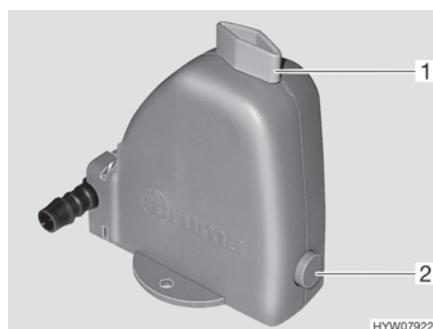

Fig. 79 Safety/drainage valve
The heater is equipped with a safety/drainage valve (Fig. 79). The safety/drainage valve prevents water for the production of hot water from freezing, when there is frost and the heater is not switched on.
- Close the safety/drainage valve. Turn the knob (Fig. 79,1) perpendicular to the safety/drainage valve and push the push button (Fig. 79,2) in.
- Open the safety/drainage valve. To do this turn the knob (Fig. 79,1) parallel to the safety/drainage valve. The push button (Fig. 79,2) jumps out. The domestic water container is emptied to the outside through the safety/drainage valve.